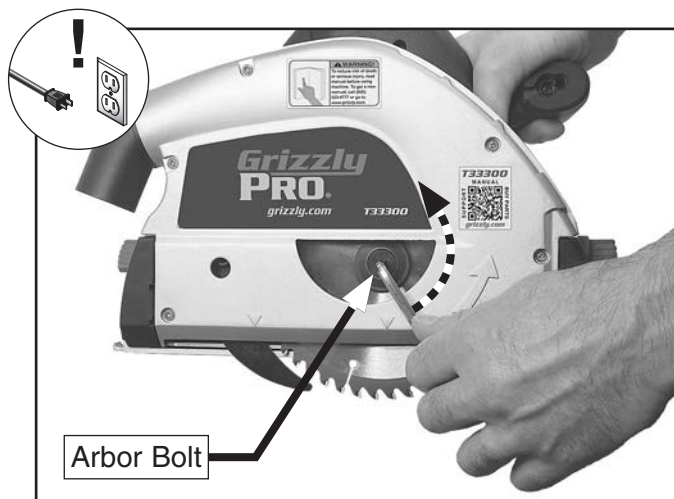

Figure 7. Loosening arbor bolt.
- Loosen arbor bolt (see **Figure 7**).